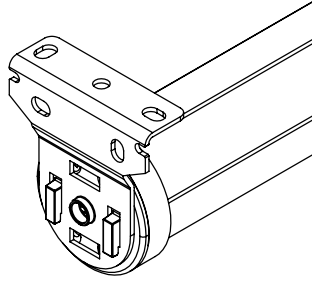

**Figure 10.** Insert the Heavy Duty End Pin and Motor Assembly.
**Step 6.** Insert the heavy duty end pin (and tube adapter where required) and the motor assembly into the roller tube. Make sure to line up the tabs on the tube with channels on the driver and crown as shown in **Figure 10**.